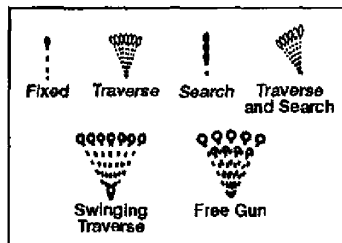

Figure 071-312-3031-4. Traversing and searching
c. Traverse the target area with a bipod mounted M60 machine gun by selecting successive aiming points (figure 071-312-3031-4).